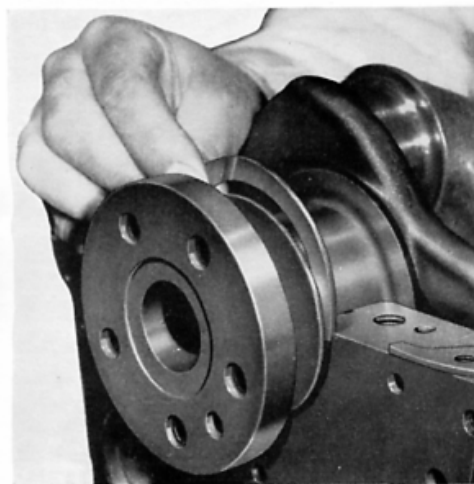

Fig. K.6.
5. Locate upper thrust washer half as shown in Fig. K.6, place lower halves either side of rear main bearing cap as described and refit cap.
4. Locate upper thrust washer in position as shown in Fig. K.6.